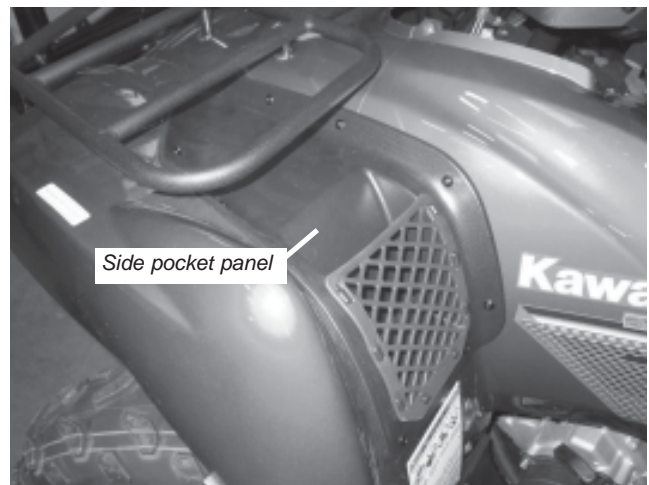

Figure 15
- e. Remove side pocket panel shown in Figure 15.